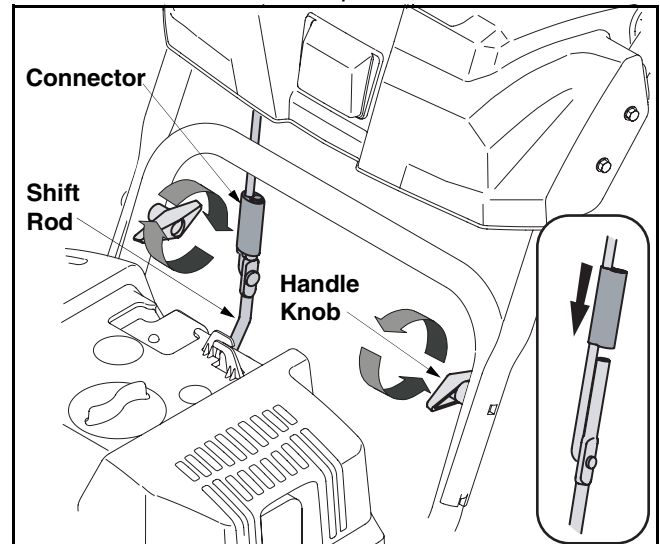

Figure 2
2. Tighten two handle knobs firmly to secure the upper handle to the lower handles. See Figure 2.
3. Slide the shift rod connector down over the end of the lower shift rod. Tap the connector until it **locks** over the lower shift rod. See Figure 2.